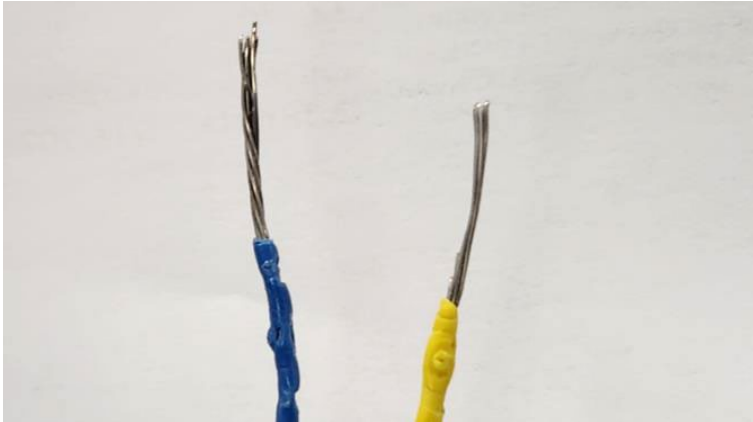

Figure 6: Blue and yellow wires stripped
- Repeat the previous step for yellow and blue wires protruding from the faceplate using a 22 AWG wire stripper. Figure 6.